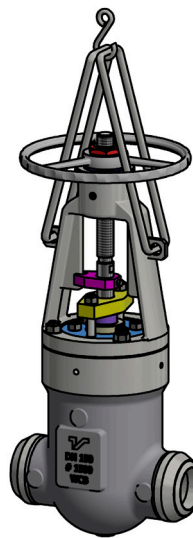
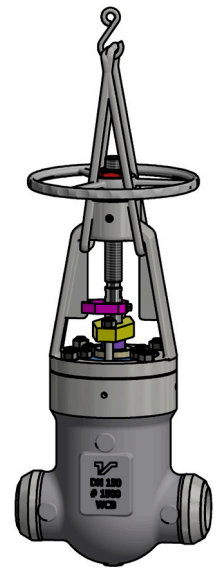

Figure A.18
Figure A.19
- If possible, lift GHP via the lifting lugs or yoke (Figure A.18 or Figure A.19).